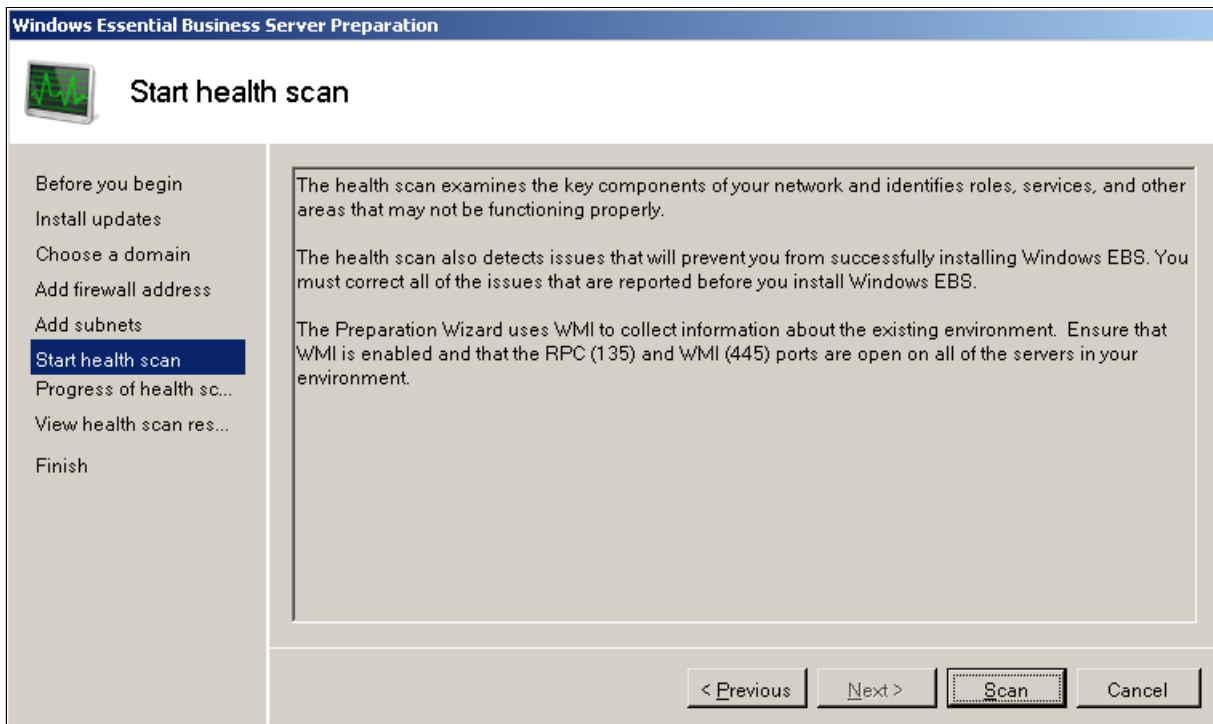

Figure 3-5 Start environment health scan
5. Click **Scan** on the “Start health scan” panel (Figure 3-5). The wizard will scan the existing environment and its components, such as Active Directory, DHCP and DNS service, network adapters, and other network services and components.